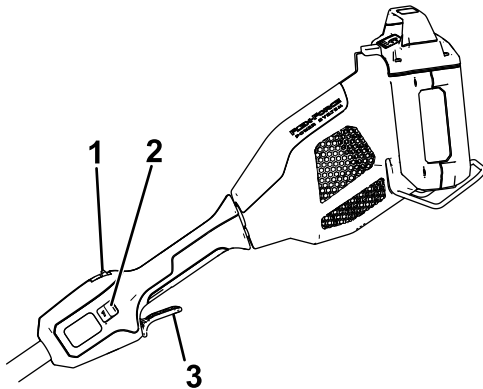

Figure 6
4. To start the attachment, press the lockout button, then squeeze the run trigger (Figure 6).
To shut off the edger, release the run trigger (Figure 6). Allow at least 5 seconds for the blade to stop moving.